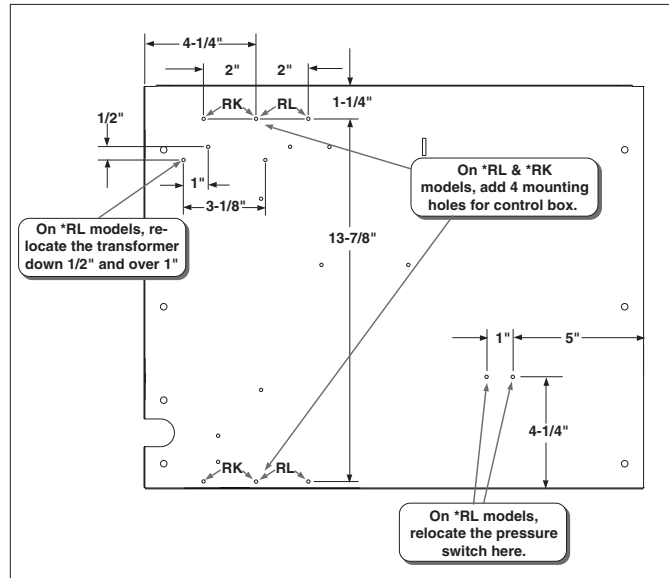

Figure 1. Downflow Blower Access Door
9. Mount the blower control box onto the blower access door. If the unit does not have holes provided, add 1/8” holes per Fig. 1.
9. Mount the blower control box onto the blower access door. If the unit does not have holes provided, add 1/8" holes per Fig. 1. Also, if mounting holes are not included in the furnace, the transformer and the pressure switch will have to be re-located:
- b. Drill new 1/8" mounting holes per Fig. 1.
- e. Drill new 1/8" mounting holes per Fig. 1.